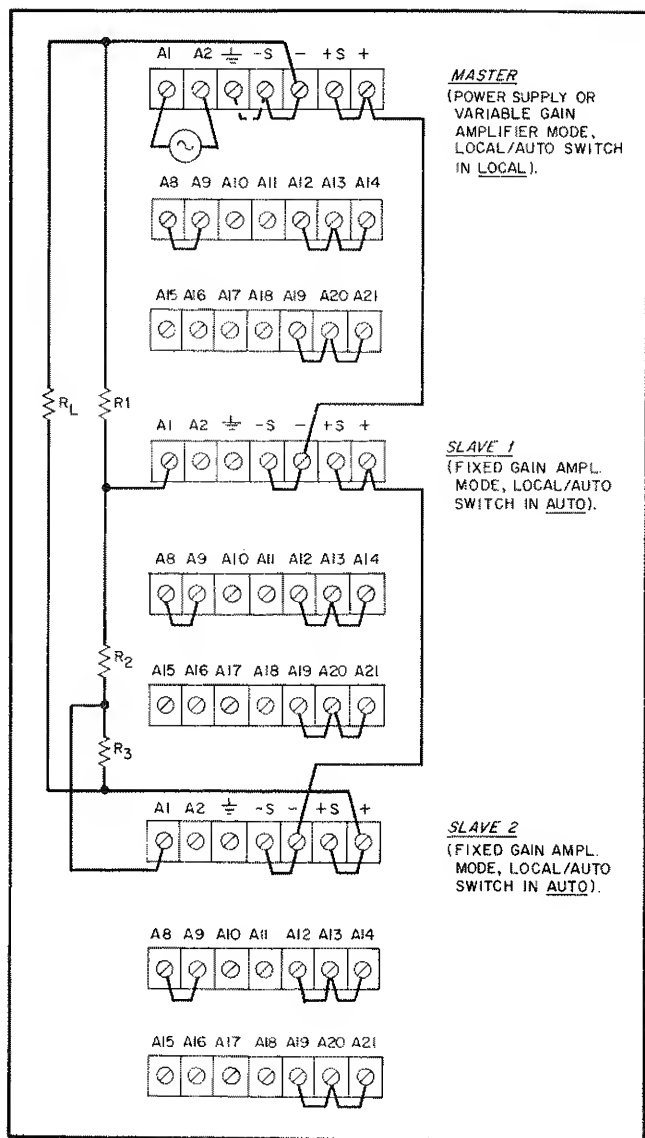

Figure 3-12. Auto-Series Connections, Three Units
**3-59 Auto-Series Operation.** Two or more BPS/A's can be connected in an auto-series arrangement to obtain a higher output voltage than that available from a single supply. Figure 3-12 illustrates the auto-series connections for three supplies. When this arrangement is used, the output voltage of each slave supply varies in accordance with that of the master supply; thus, the total output voltage of the combination is determined by the master supply's front panel VOLTAGE control (or remote programming input). The front panel CURRENT controls (or remote programming inputs) of all three units are operative and the current limit is equal to the lowest setting. The slave units must be floated off ground. Instruments can be operated floating up to 300 volts off ground whether operated singly or in series. This limits model 6826A ( $\pm 50V @ 1.0A$ ) to six units in series and model 6827A ( $\pm 100V @ 0.5A$ ) to three units in series.